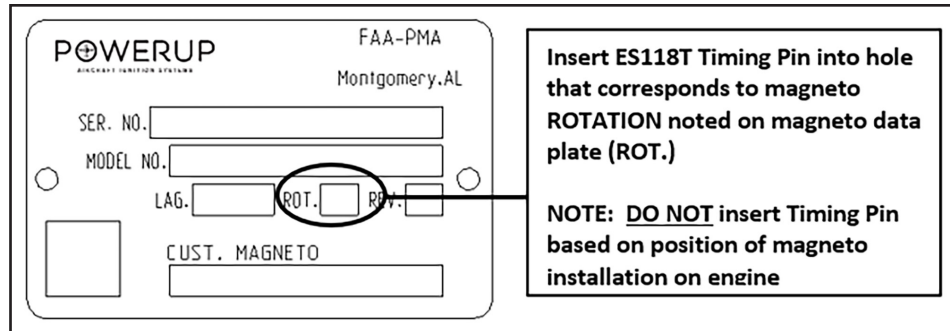

Figure 6.21 – Magneto Rotation Label
- B. Magnetos with engine-supplied drive gear or drive coupling (28):
- (1) Remove nut (2), washer (3), and bushing (31), as applicable.
- (2) Install gear or drive coupling (28) to engage with drive features or woodruff key (7a), as applicable.
- (3) Install washer (3) or bushing (31), as applicable.
- (4) Install the nut (2). Tighten nut to IAW Table 6.2.
- (5) For retained gears, ensure gear endplay and free motion under the nut (2). As applicable, ensure the impulse coupling assembly (4) snaps and operates freely by engaging impulse while turning the rotor (7) shaft.
- (6) Install and secure cotter pin (1).
- C. Identify the label on the magneto data plate that identifies Magneto Shaft Rotation. Magneto Shaft Rotation will be identified by the letter "L" for LEFT (Counterclockwise shaft rotation as viewed looking at the shaft end of the magneto) and the letter "R" for RIGHT (Clockwise shaft rotation as viewed looked at the shaft end of the magneto). Refer to Figure 6.21.